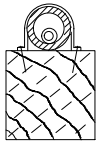

Figure 8
1. Strap PVC conduit to the pole with pipe straps or galvanized perforated plumber's tape spaced not more than 3 feet apart (see Figure 8).